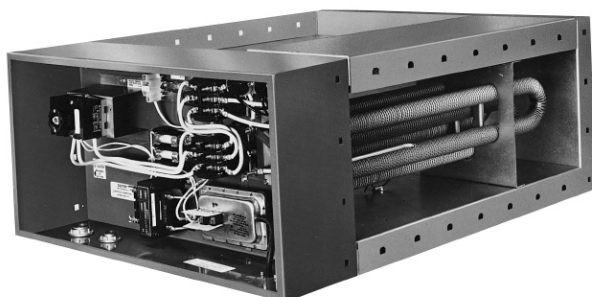

Figure 54.
**Marine Duty** – Only Indeeco offers a UL Listed duct heater which is also ABS Design Assessed and meets U.S. Coast Guard Requirements for shipboard use (Figure 54).